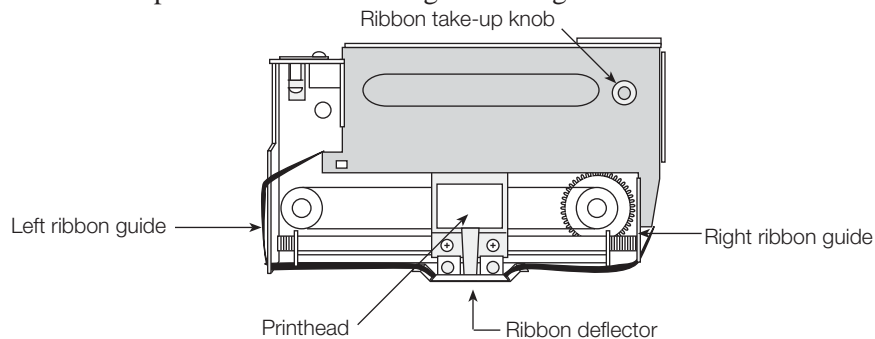

Figure 2-3. Installed ribbon cartridge, showing ribbon path
4. Use a pencil to loop the ribbon over the left ribbon guide (see Figure 2-3).